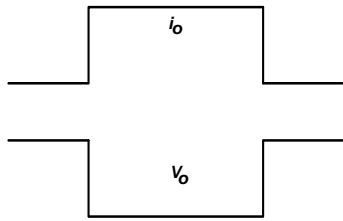
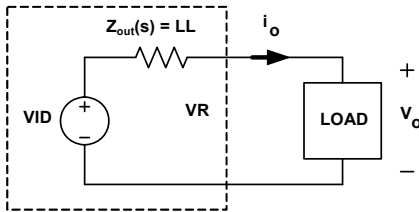

FIGURE 25. DESIRED LOAD TRANSIENT RESPONSE WAVEFORMS
FIGURE 31. VOLTAGE REGULATOR EQUIVALENT CIRCUIT
Assuming the compensator design is correct, Figure 25 shows the expected load transient response waveforms if C_n is correctly selected. When the load current I_{core} has a square change, the output voltage V_{core} also has a square response.
Figure 25 on page 29 shows the desired load transient response waveforms. Figure 31 shows the equivalent circuit of a voltage regulator (VR) with the droop function. A VR is equivalent to a voltage source (= VID) and output impedance $Z_{\text{out}}(s)$. If $Z_{\text{out}}(s)$ is equal to the load line slope LL, i.e., a constant output impedance, then in the entire frequency range, V_o will have a square response when I_o has a square change.